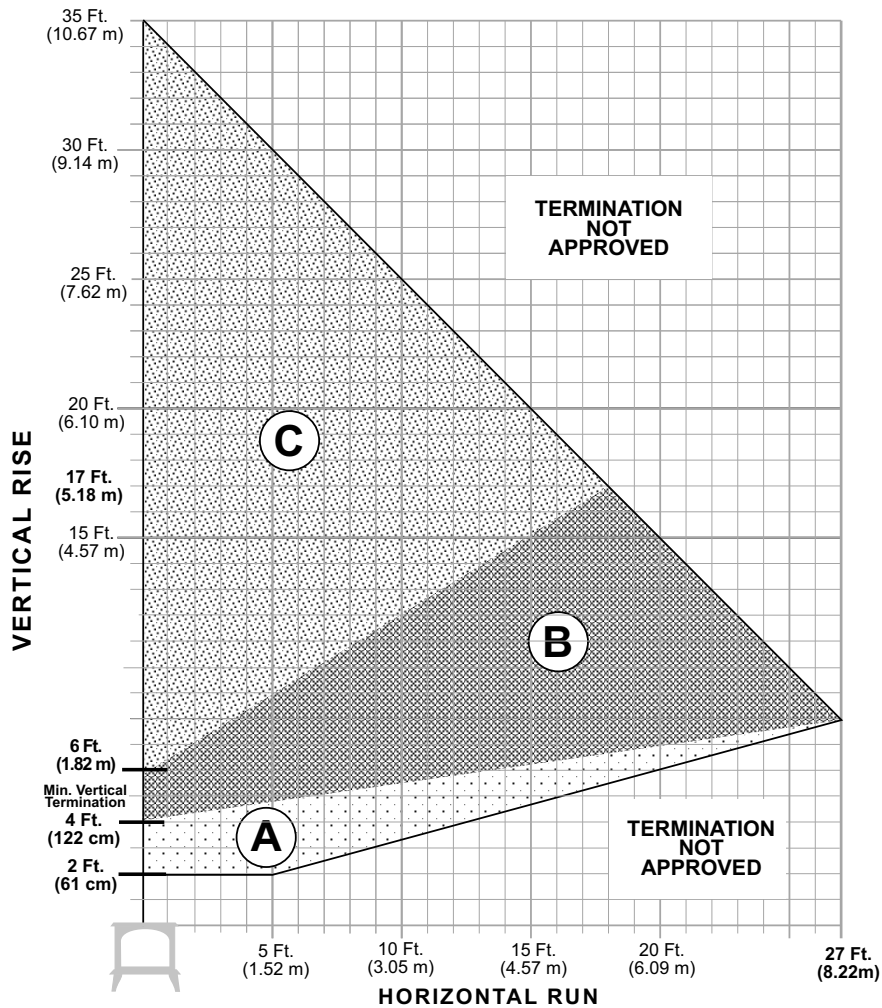

Figure 4.9. Vent Termination Zone Matrix - NG/LP
The circled letter designations in the vent matrix in figure 15 correspond to the Exhaust Restrictor dial settings on the stove. First, determine which vent termination zone is appropriate for your installation, then adjust the restrictor to the corresponding position as shown in figure 4.9.
- The termination should fall within the shaded areas of the grids depicted in the Vent Matrix, fig. 4.9, page 11.
- Any horizontal termination must fall within the shaded portion of the vent window matrix shown in fig. 4.9.